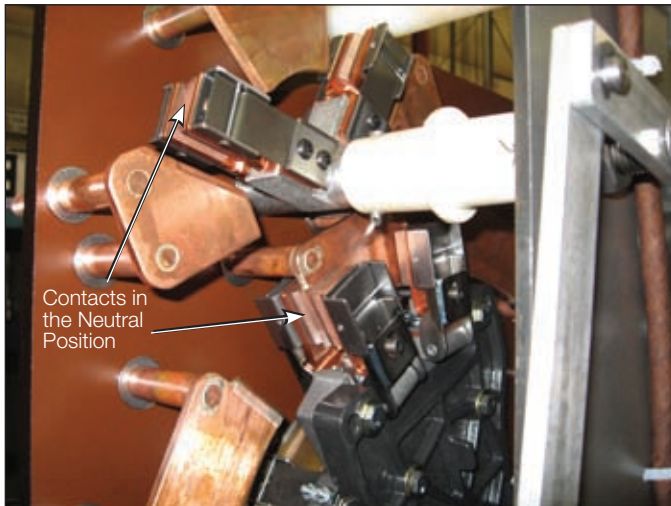

Figure 1.
2. The QD8 should be in the neutral position before starting the replacement procedure. Refer to Figure 1. If the QD8 is not in the neutral position, turn the hex-shaped end of the motor shaft using a 3/8 (9 mm) socket on a ratchet until the QD8 is in the neutral position.